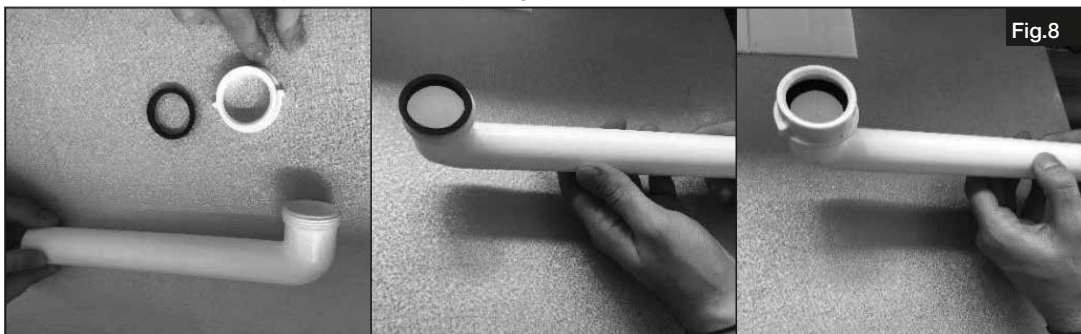

Fig.8
1. The condensation outlet pipe is shown below (see Fig.8).